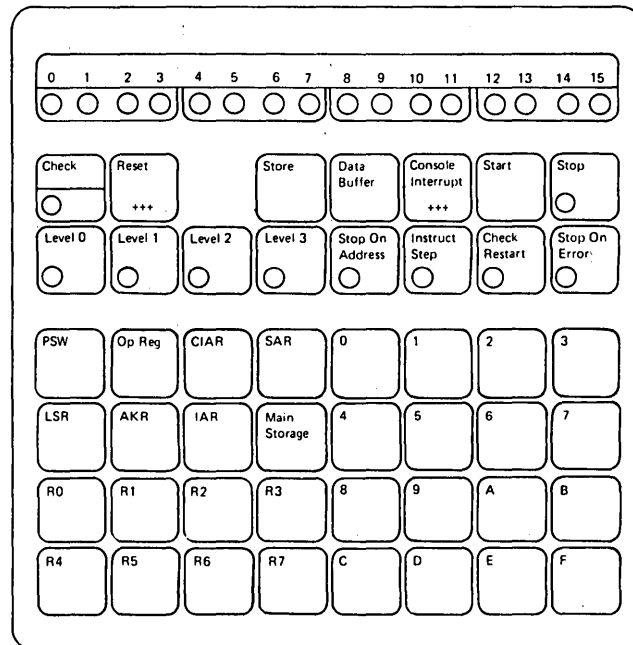

Figure 2-2. Programmer console
This feature is intended for systems where programs are being tested or where various programs are entered and executed during the day. This type of environment requires a more versatile console to (1) determine program and machine problems, and (2) manually alter data and programs in storage. The following indicators and controls are provided: Check and Data Display indicators; Level, Stop, Stop on Address, Instruction Step, Check Restart, and Stop on Error key/indicators; Reset, Storage, Data Buffer, Console Interrupt, and Start keys (see Figure 2-2).